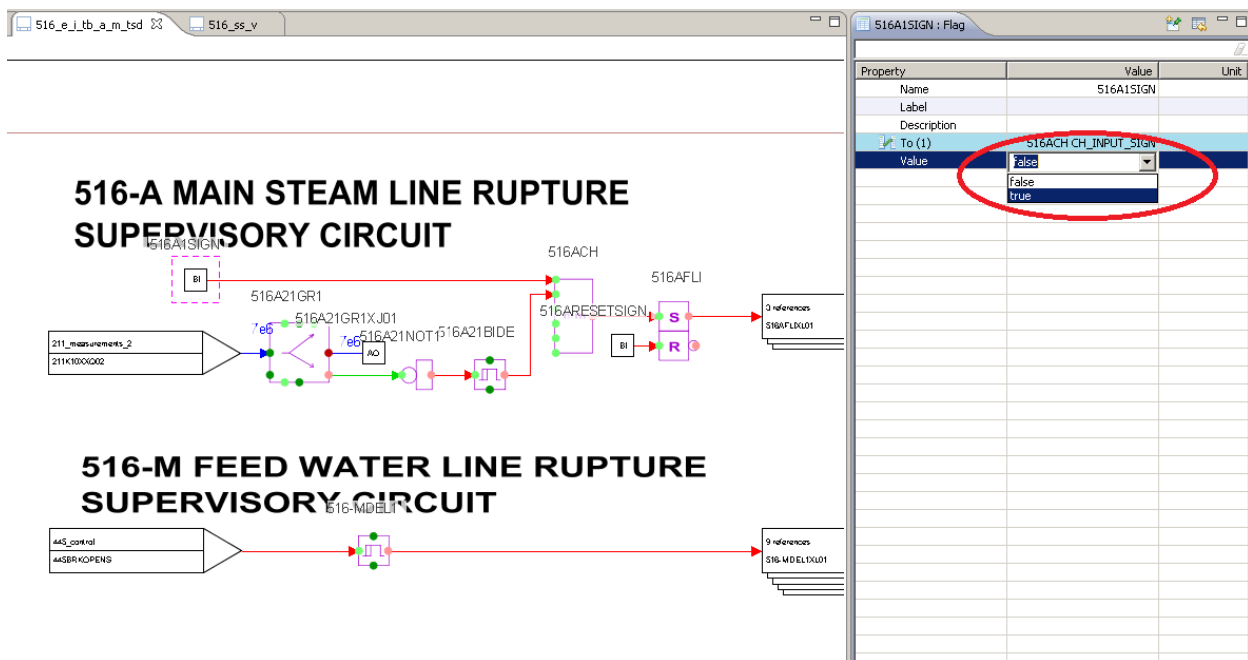

Figure 4. Manually activating the 516-A signal
- Go to "516_e_i_tb_a_m_tsd" diagram and activate manually 516-A isolation by changing the binary signal 516A1SIGN from false to true (see Figure 4).